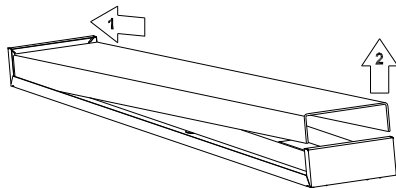

Figure 1
1. Remove fixture components and parts pack(s). Check that all parts are included. **See Page 1, Fig. 1.** Remove protective film on fixture ends.
2. Slide Diffuser (4) toward one end of the fixture, making sure end of Diffuser is under Diffuser spacer. **See Fig. 1.**
3. Lift Diffuser out of fixture from opposite end. **See Fig. 1.**